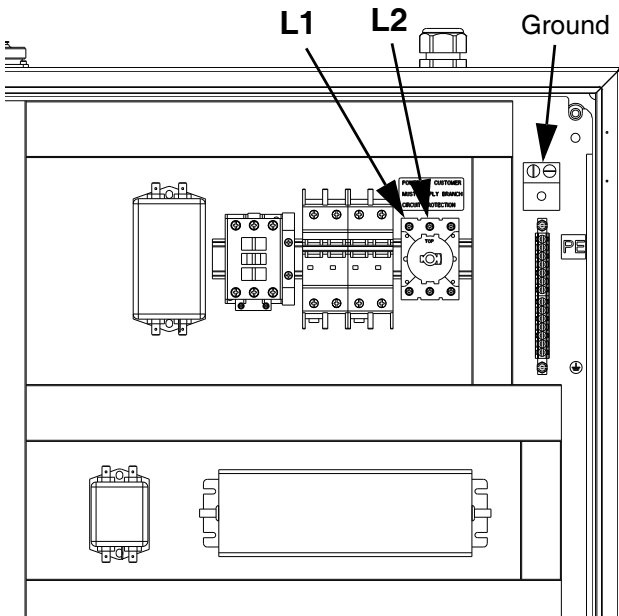

FIG. 6: 240 Vac Wiring
- For wiring, refer to FIG. 6.